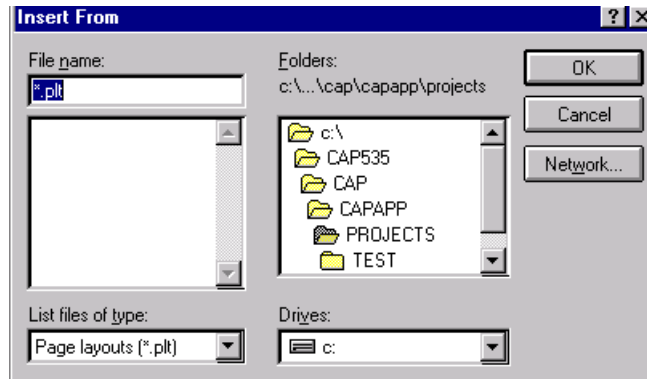

Fig. 45 The Insert From... dialog box.
- 3 Select the 'Insert From...' command in the File menu of the Page Layout, and the Insert From dialog box in Fig. 45 appears.